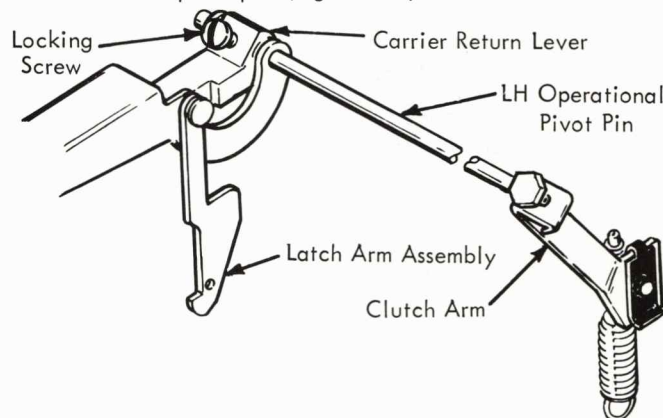

FIGURE 147.2 Carrier Return Lever Adjustment
- a. **Carrier Return Lever** - Position the carrier return lever laterally on the left-hand operational pivot pin so that the carrier return latch will hang vertical without binding against its interposer. Be sure to tighten the locking screw in the lever onto the flat portion of the pivot pin (Fig. 147.2).